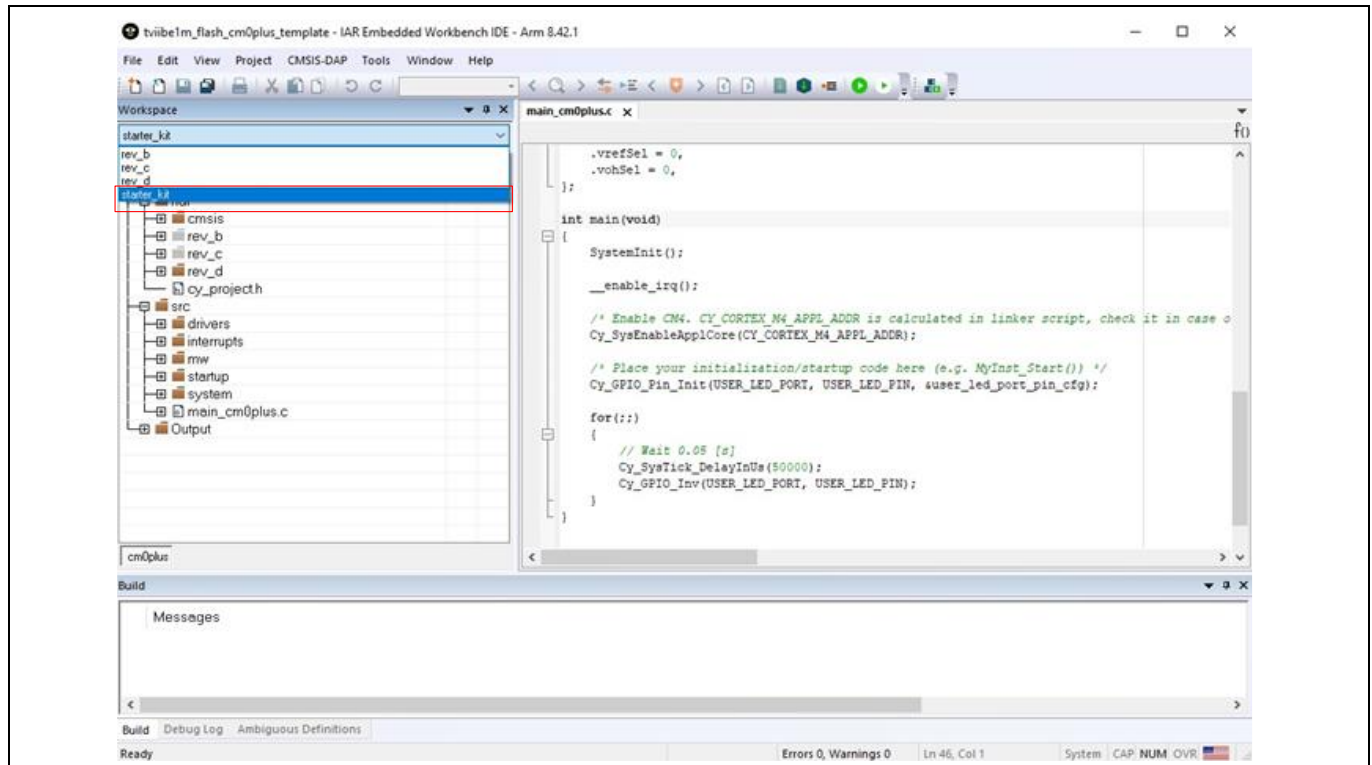

Figure 7 Selecting workspace revision
2. Select the workspace revision **starter_kit** from drop-down list under **Workspace**, as shown in **Figure 7**.